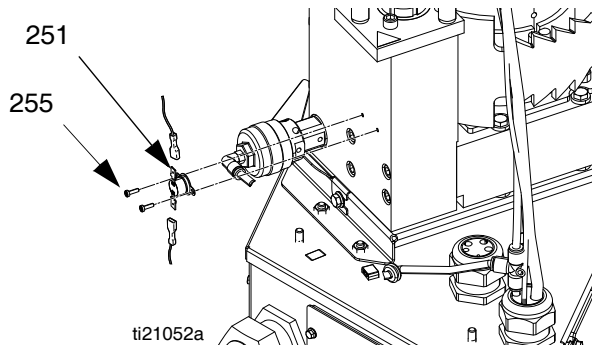

FIG. 41
- Install insulators (53,75) onto the melter assembly (5).
- Connect ground wire ring terminal (87) and ground screw (88) to melter assembly (5).
- Connect wire connectors to the over-temperature switch (251). See FIG. 41 on page 69.
- Use nuts (3) to install metal shroud (27).
- Pull the relief valve air tube (36) through the metal housing then attach air tube to relief valve (245).
- Install front access door (10) onto electrical enclosure (1).
- Reconnect all heated hoses to the melter outlet manifold (203).
10. Disconnect wire connectors from over-temperature switch (251). See FIG. 41 on page 69.
11. Pull cable out of the electrical enclosure then discard sensor (125) and wires.
1. Route new harness wires through grommet (63) in the top of the electrical enclosure.
2. Connect wire connectors to over-temperature switch (251). See FIG. 41 on page 69.
3. Place band heater temperature sensor (125) in melter.
4. Tighten screw (AA).
Disassembly (see FIG. 41):
Re-assembly (see FIG. 41):